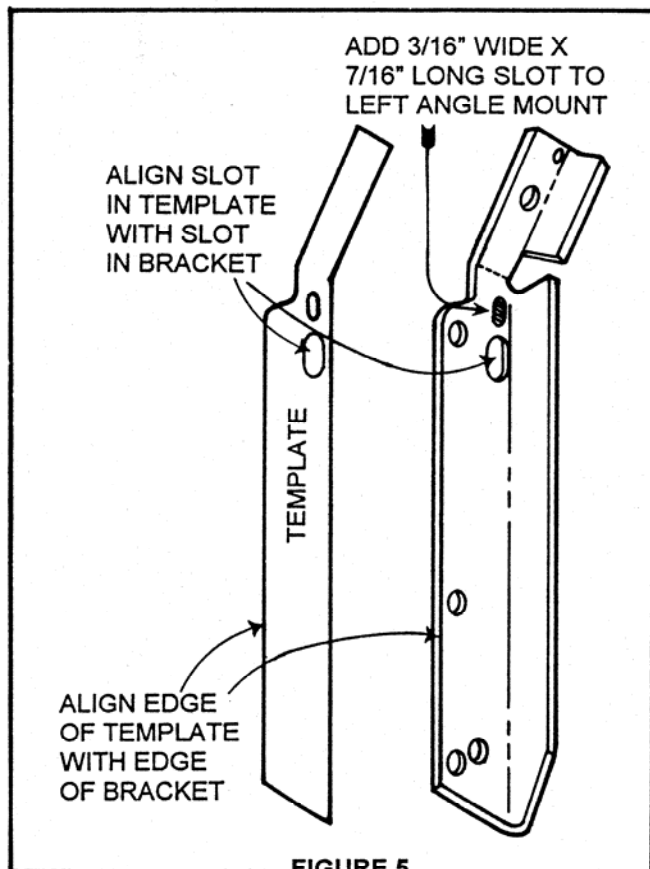

FIGURE 5.
STEP 4: Cut out the template in this manual and make a 3/16" wide x 7/16" long slot in the angle bracket on the blower housing. See Figure 5.